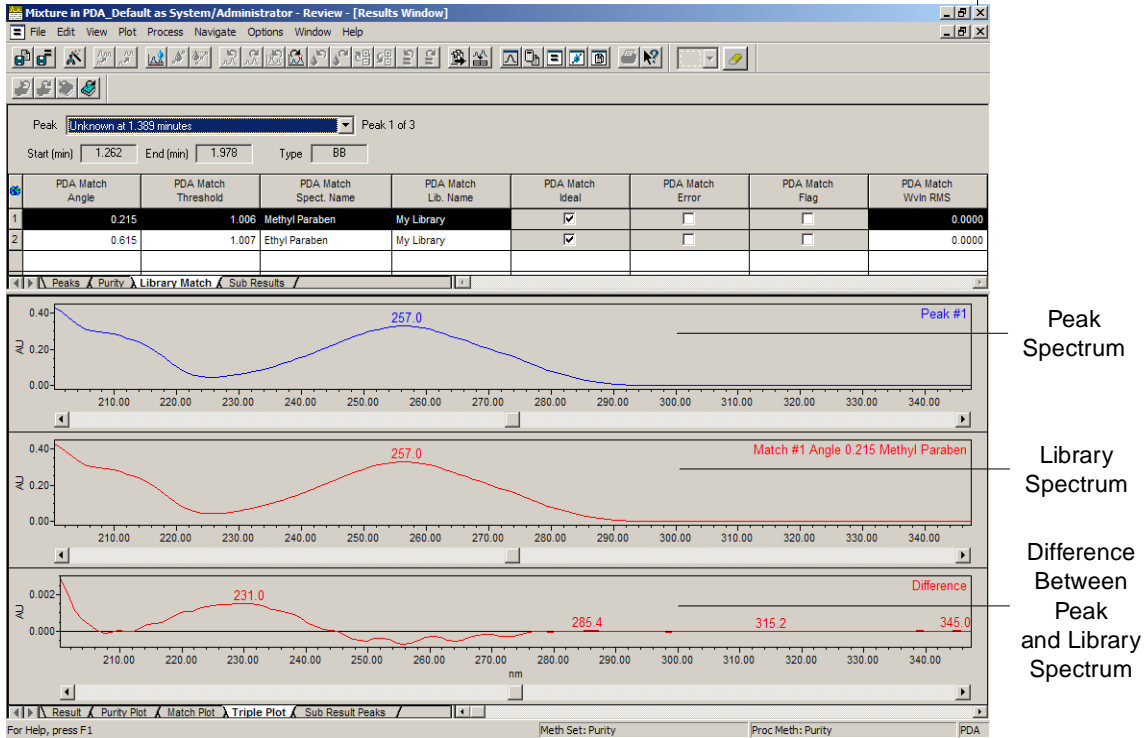

Figure 4-34 Triple Plot: Library Match
- In the lower pane, click the **Triple Plot** tab (Figure 4-34). The Triple plot shows the peak spectrum, the library spectrum, and the difference spectrum, which shows the difference between the peak spectrum and the library spectrum. Again, you can navigate between peaks using the Peak drop-down list in the Library Match tab or by selecting the appropriate row in the Peaks tab.